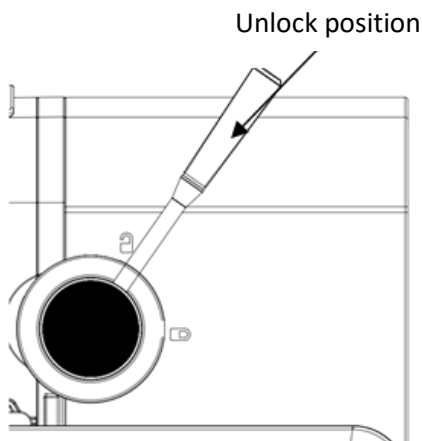

Figure 3
- Unplug the appliance from power, turn the tank switch to the unlocking position (as shown in Figure 3), remove it, and then take out the mixing blade for cleaning and drying with a towel.